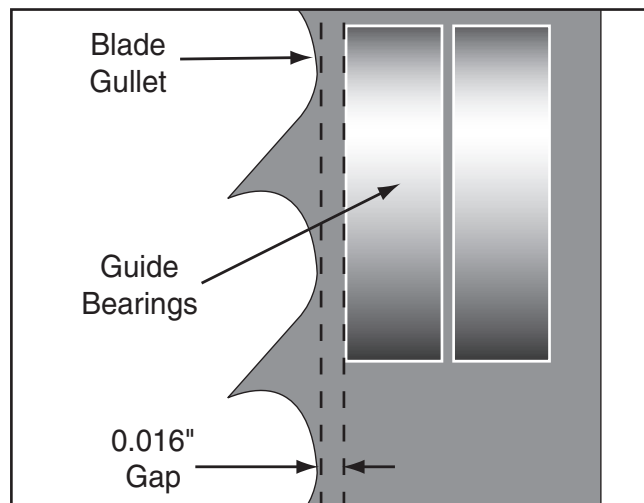

Figure 54. Lateral adjustment of blade guides.
3. Loosen the lateral rod cap screw and slide the guide block to position the blade guides approximately 0.016" behind the blade gullets, as illustrated in **Figure 54**.